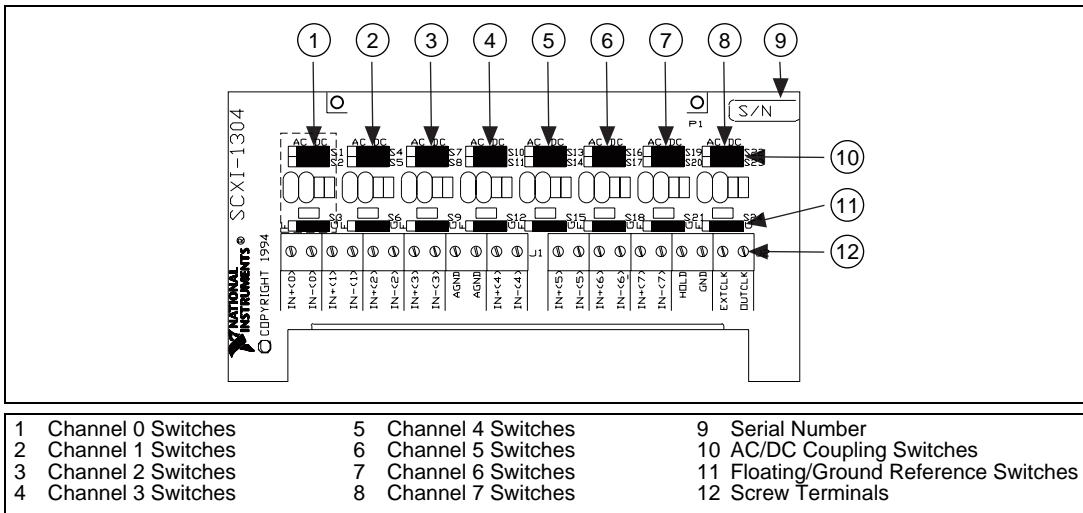

Figure 2. SCXI-1304 Signal Connections
When connecting your signals to the SCXI-1304, follow the labeling on the SCXI-1304 for the appropriate module, as indicated in Figure 2.
2. Configure each of the AC/DC coupling and ground-referencing switches, depending on the signal you are measuring. The top set of switches (S1, S2, and S3) corresponds to input channel 0, the next set down (S4, S5, and S6) corresponds to input channel 1, and so on. The bottom set of switches (S22, S23, and S24) corresponds to input channel 7. Refer to the parts locator diagram Figure 2 for the switch locations.
Figure 2 shows the SCXI-1304 signal connections.